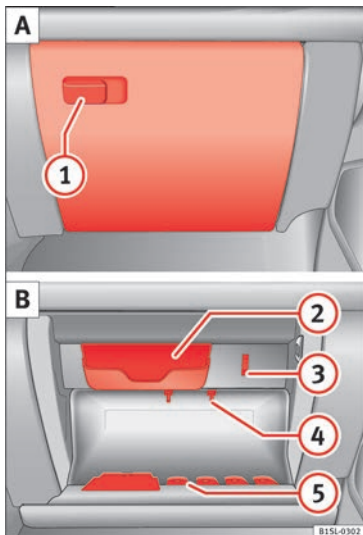

Fig. 123 Storage compartment with cover on the passenger side
Pull the lever to *open* » **Fig. 123** ①.